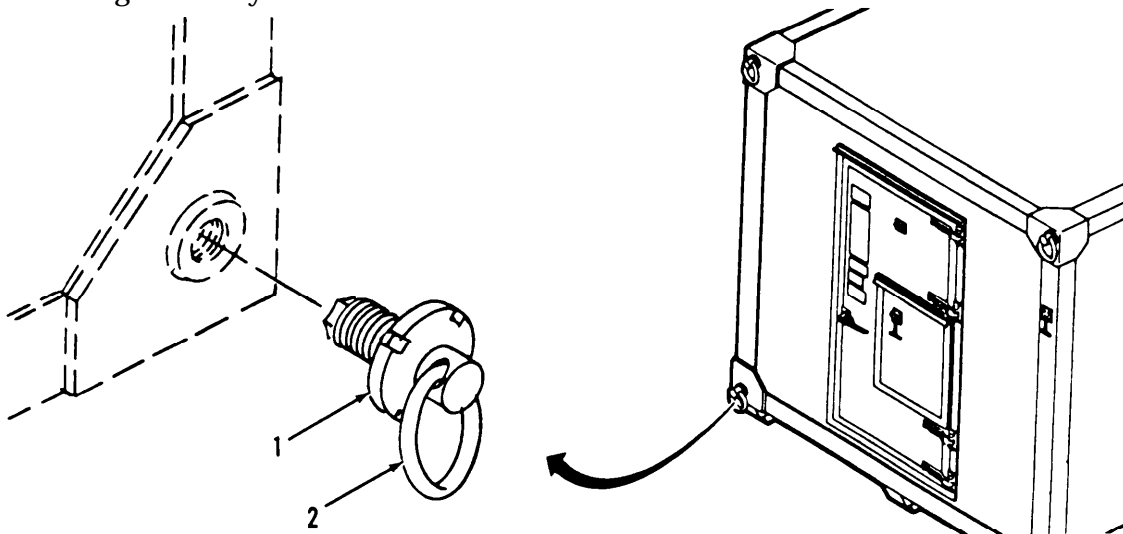

Figure 3-28. Towing Eye Assembly Replacement
a. Inspect. (Figure 3-28)
- (1) Inspect for free movement and secure mounting.
- (2) Inspect for cracks or other external damage.